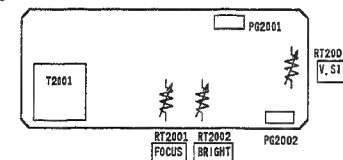

Fig. 2-22 Electronic Viewfinder (EMQ) Circuit Board (SIDE-A)
(2) EVF Vertical Size Adjustment (Fig. 2-22)
(3) EVF Brightness Adjustment (Fig. 2-22)
(4) EVF Focus Adjustment (Fig. 2-22)